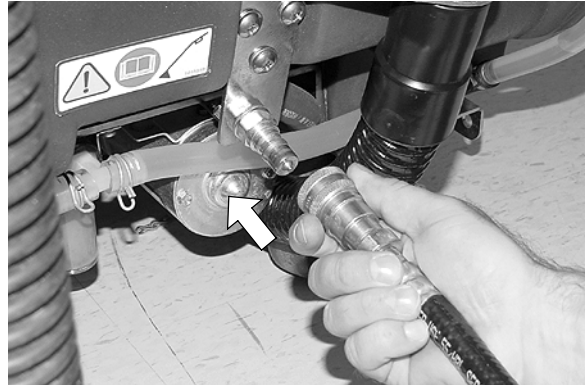

FIG. 13
2. Connect the accessory tool's solution hose to the coupler located at the rear of the machine (Figure 13).